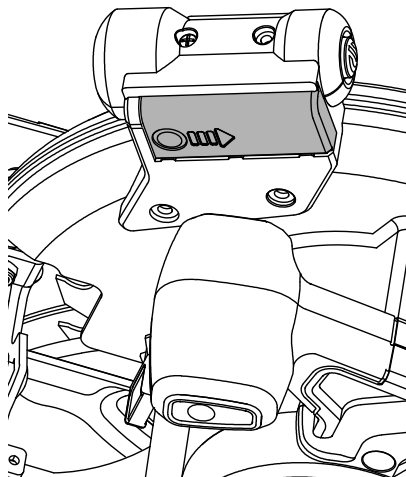

Figure 12
6. LASER GUIDE (SEE FIG. 12 & 13)